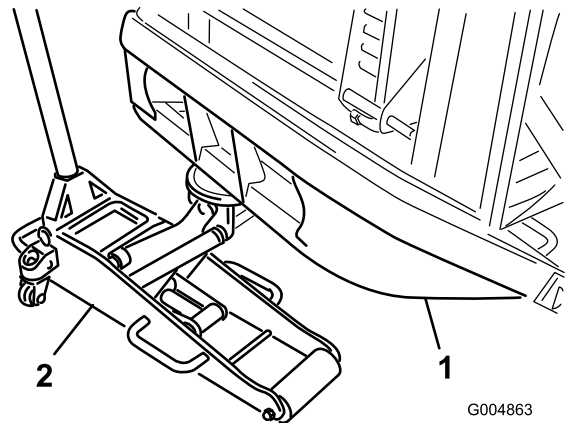

Figure 23
2. Place a jack stand under each wheel motor and a floor jack under the rear bumper (Figure 23), or suspend from a over head hoist.